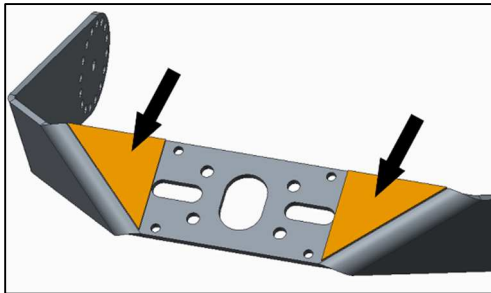

Fig.1a
- Peel off adhesive backing from pad and adhere to mounting bracket as shown [Fig.1a]